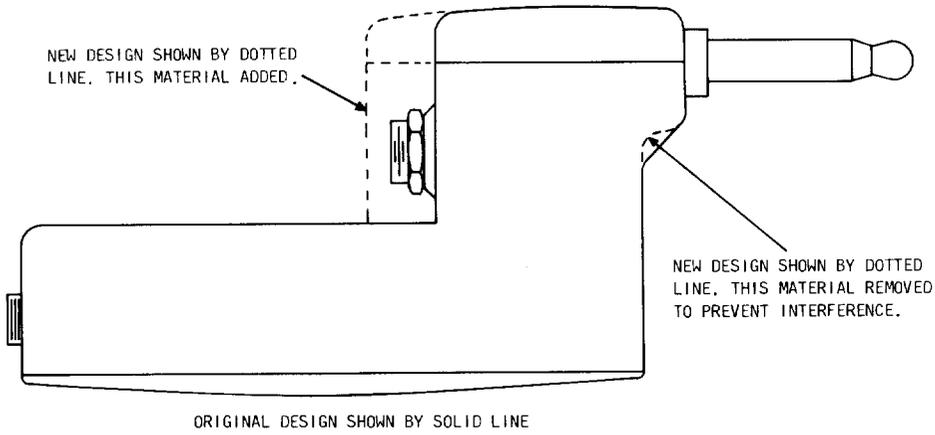

Fig. 2—292-Type Amplifier Showing Difference Between Earlier and Later Models
- (e) to add Fig. 2.
1.03 The 292A (MD) amplifier was manufactured in two versions. Fig. 2 illustrates the difference between the two. The earlier version, which was manufactured before July 1975, is not mechanically compatible with the series 20 through 150 PBX consoles while the later version is compatible.